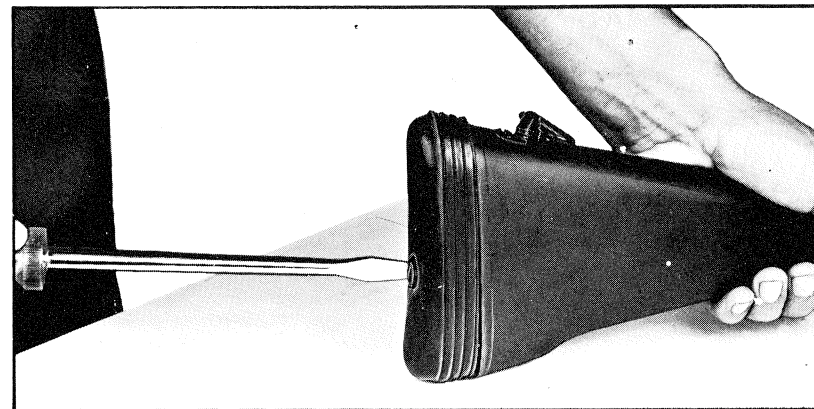

Fig. 111
b) **Butt plate.** — Unscrew butt plate screw (fig. 111).